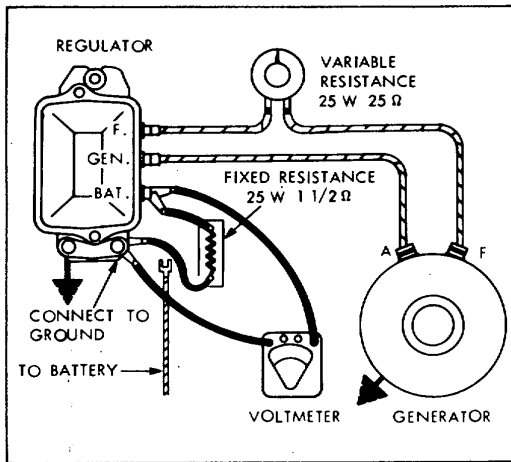

Figure 5-8. Voltage Regulator Test Setup
(1) Disconnect battery lead from BAT terminal (fig. 5-8) of regulator and connect 1-1/2 ohm 25 (or more) watt resistor between the BAT terminal and ground on frame.